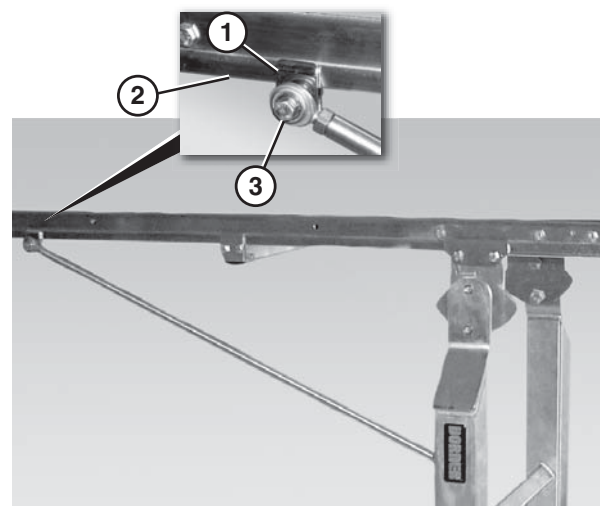

Figure 15
2. Slip the clip (Figure 15, item 1) onto the conveyor (Figure 15, item 2). Loosen the M6 screw (Figure 15, item 3), if necessary.
3. Tighten the M6 screw (Figure 15, item 3) to 80 in•lb (9 N•m).